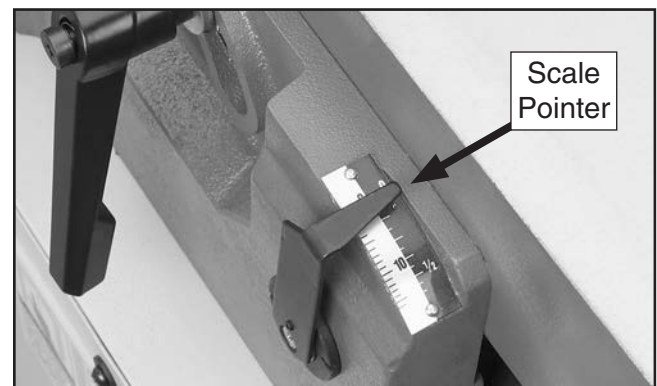

Figure 62. Depth scale pointer adjusted to "0".
5. Using a screwdriver, precisely adjust scale pointer to "0" (see **Figure 62**).